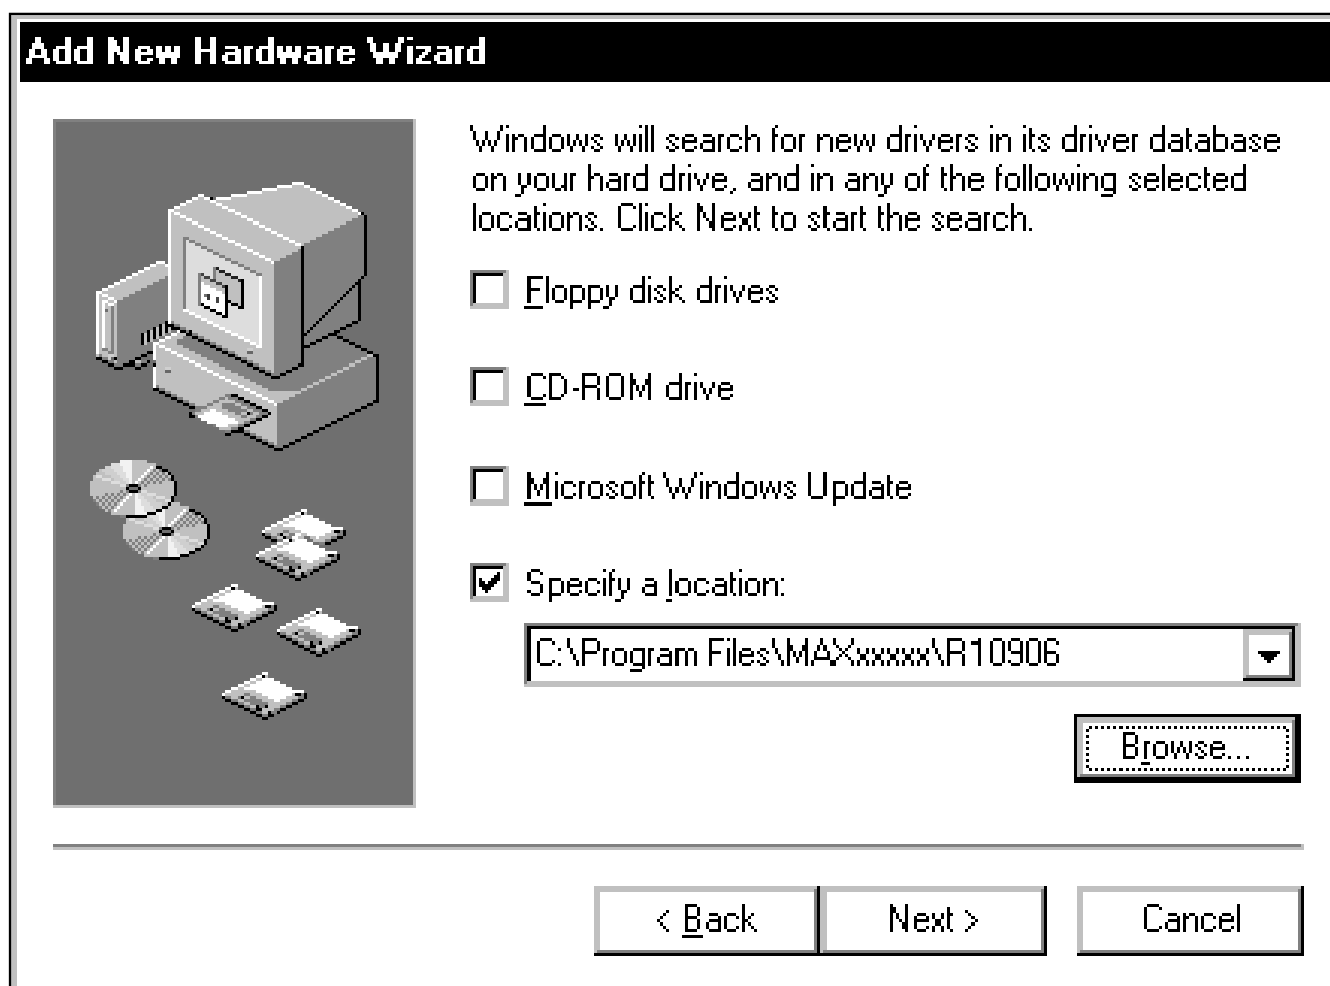

Figure 25. Windows 98SE: **Add New Hardware Wizard I Specify Location** Window
- At the **Add New Hardware Wizard I Specify Location** window (Figure 25), check the **Specify a location** checkbox and press the **Browse** button. Choose the path **C:\Program Files\MAXxxxxx\R10906** (where xxxxx represents the Maxim IC part number on the EV kit being evaluated). Press the **Next** button when finished.